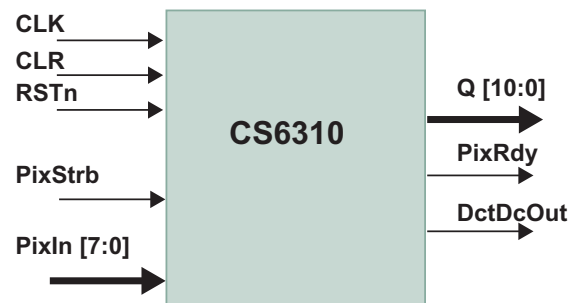

Figure 2: CS6310 Core Symbol
Table 1 describes the input and output ports (shown graphically in Figure 2) for the CS6310 High Performance DCT core. Unless otherwise stated, all signals are active high and bit (0) is the least significant bit.